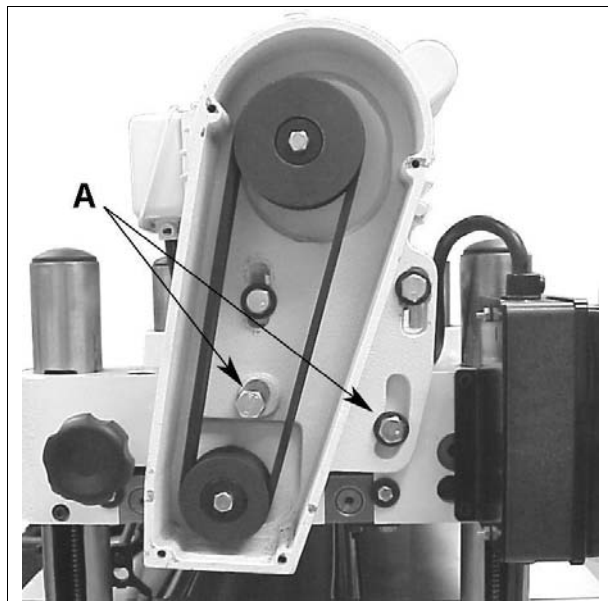

Figure 13
1. Loosen the two 17mm bolts (A, Fig. 13) that hold the motor/pulley assembly to the planer.